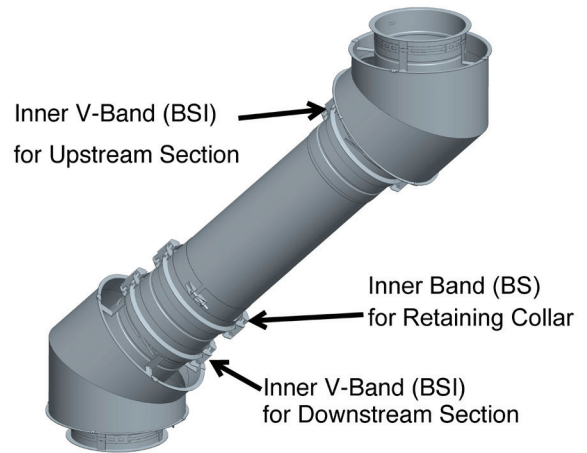

Figure 38 - Step 10-11 - Secure the Retaining Flanged Band
Step 10 - Then install the other V-band (BSI) over these flanges (like regular joint assembly). See Figure 38.